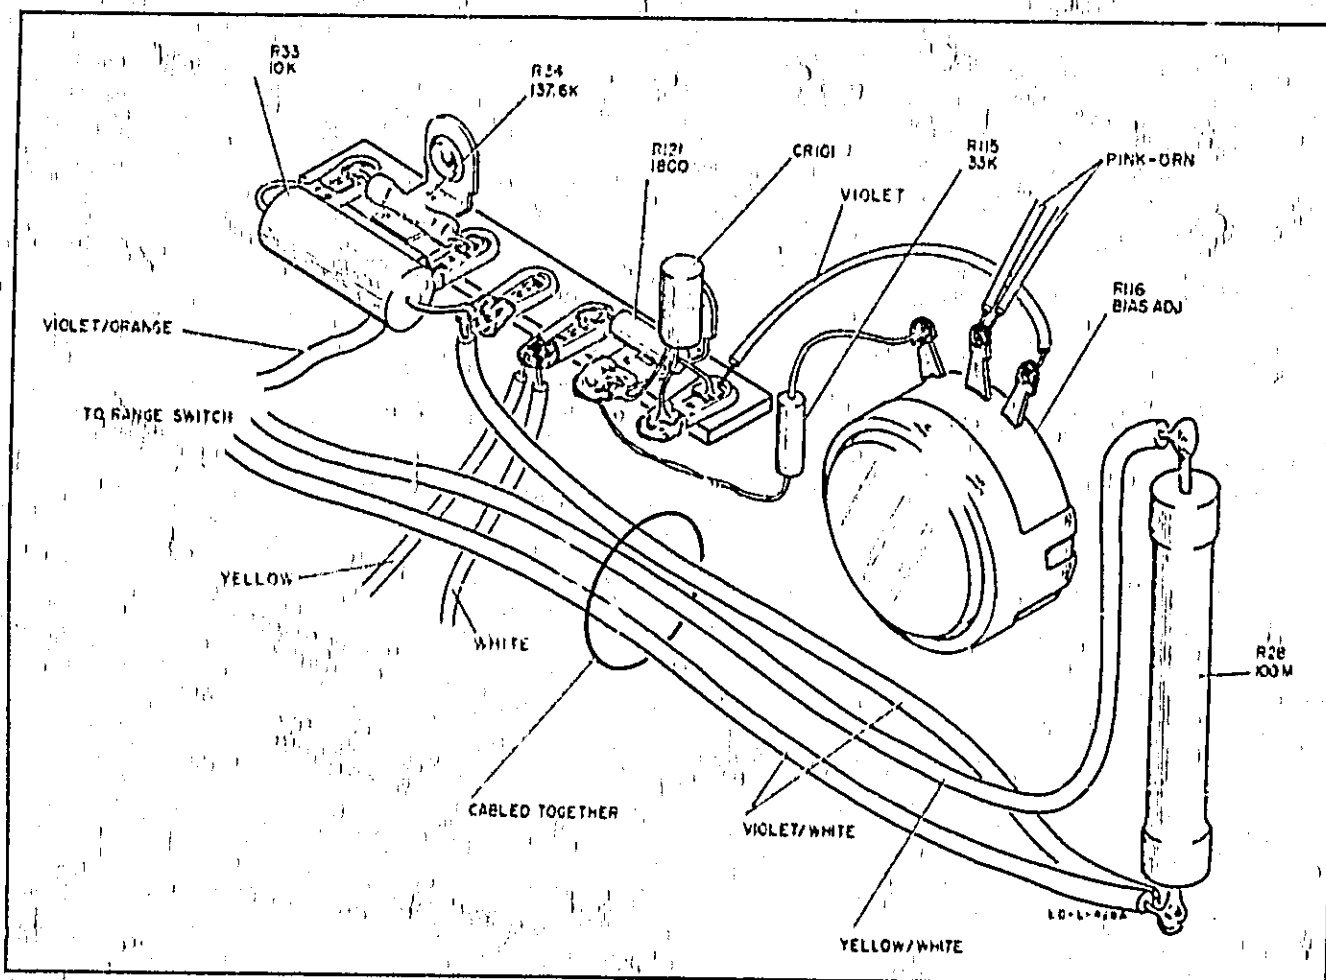

Figure 4. 7-Lug Terminal Strip Detail
17) Refer to figure 4. Unsolder yellow-white wire from R28 (100 megohms), located near R116, BIAS ADJ control. Unsolder violet-white wires to RANGE switch from other end of R28.
- 40) Dress cabling from S1F wafer behind RANGE switch and close to chassis. Connect wires to 7-lug terminal strip at rear of chassis to agree with figure 4.